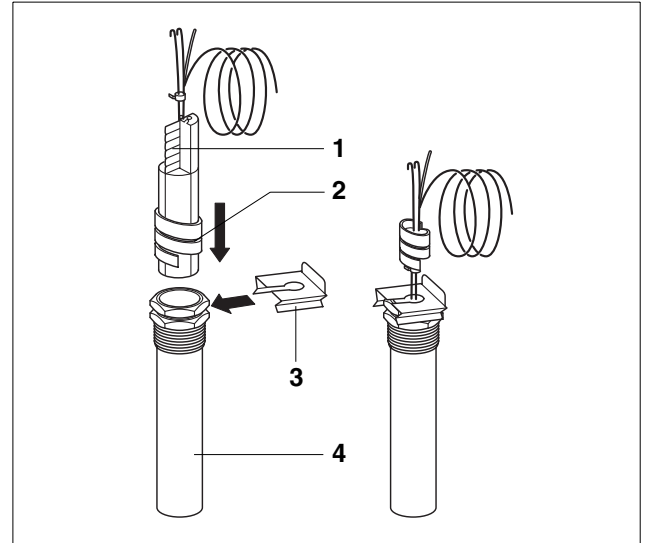

Fig. 17 Insert the sensor bundle into well
- Carefully slide the plastic holding spiral from the sensor bundle as this package is pushed into the well (Fig. 17, **Item. 2**).
To ensure proper contact between immersion well (Fig. 17, **Item. 4**) and sensor/capillary surfaces, it is important to install the tension wafer plate (Fig. 17, **Item. 1**).